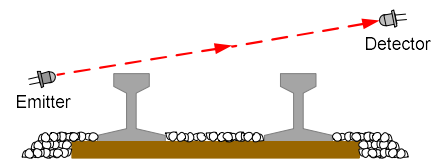
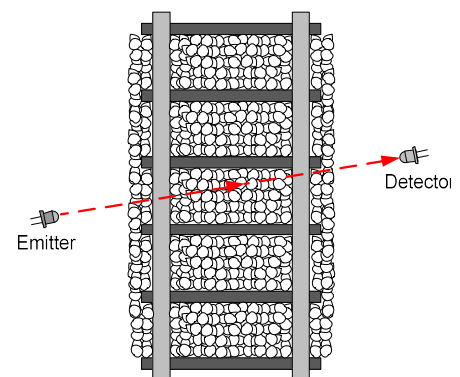

Figure 10a
Figure 10b
With this sensor mode and physical arrangement a train is detected when the infrared (IR) beam is broken by the train. The IR components should be located across the track as shown in Figure 10a and 10b; the distance between them has been tested up to 16 inches. The detectors (dark lens, blue and black wires) should be mounted with a slight downward angle in order to minimize the possibility of false triggering from visible light sources; this is illustrated in Figure 10a. We would also recommend that you angle the emitters and detectors across the track as shown in Figure 10b. This will minimize false "clear" situations due to the space between rolling stock. You can bend the IR emitter and detector components IF you are VERY careful and, preferably, use a pair of "smooth jaw" (no teeth/serration) pliers!! Make the bend on the IR component NO CLOSER than 0.5" from the tip. You don't want to pierce the insulated heat shrink tubing and potentially cause a short.